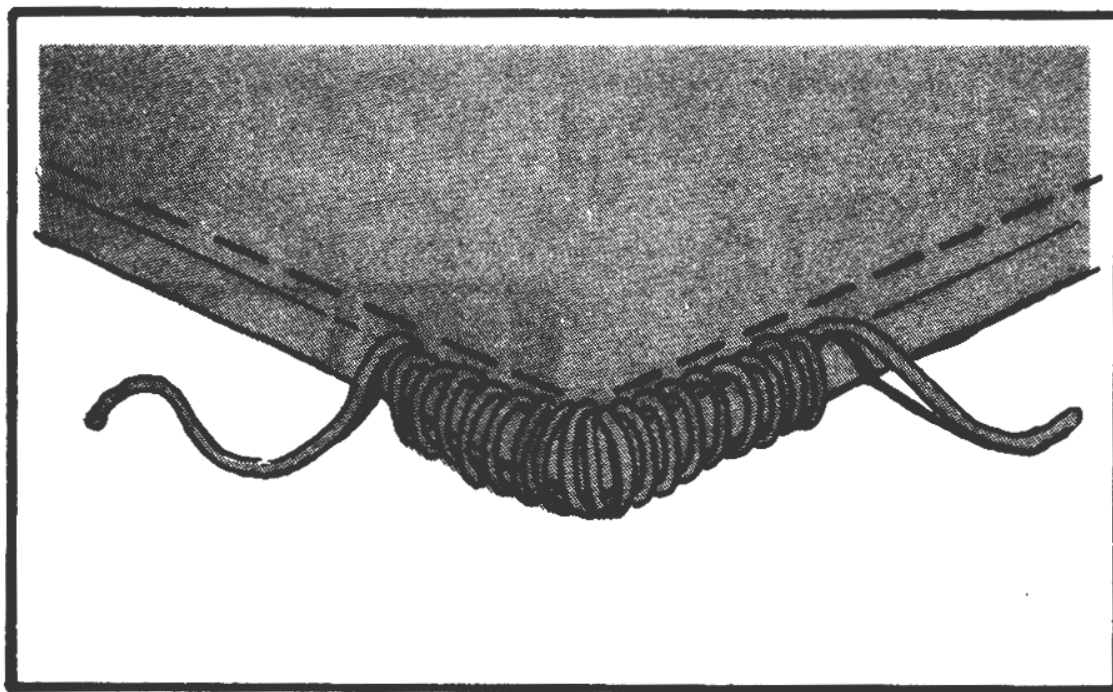

Figure 9-1. Overedge darn
d. Overedge Darn. The overedge darn (Figure 9-1) is used to repair worn corded seams and bindings. It is not used on clothing. To make an overedge darn--
- (1) Turn the canvas item faceup.
- (2) Anchor the thread on the underside by sticking the needle up through the canvas near the cording.
- (3) Stick the needle back down into the canvas on the other side of the cording.
- (4) Continue to stitch around the cording in a circular or overhand fashion until the damaged area is covered.
- (5) Knot the thread on the underside near the cording, and cut the thread close to the knot.